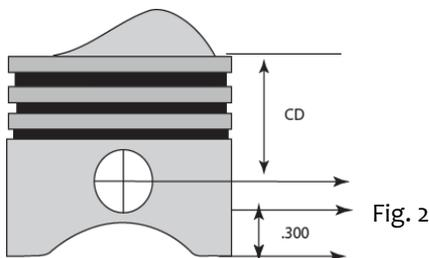

Fig. 2
2. The "Gage Point" or skirt measurement point of these pistons is to be taken .300 up from the bottom of the skirt (Fig. 2). Aluminum when subject to temperature fluctuations will expand and contract accordingly. All RaceTec/AutoTec Piston measurements are taken at temperature of 72 degrees Fahrenheit. Please keep temperature variations in mind when performing final machining operations and setting final assembly clearances.